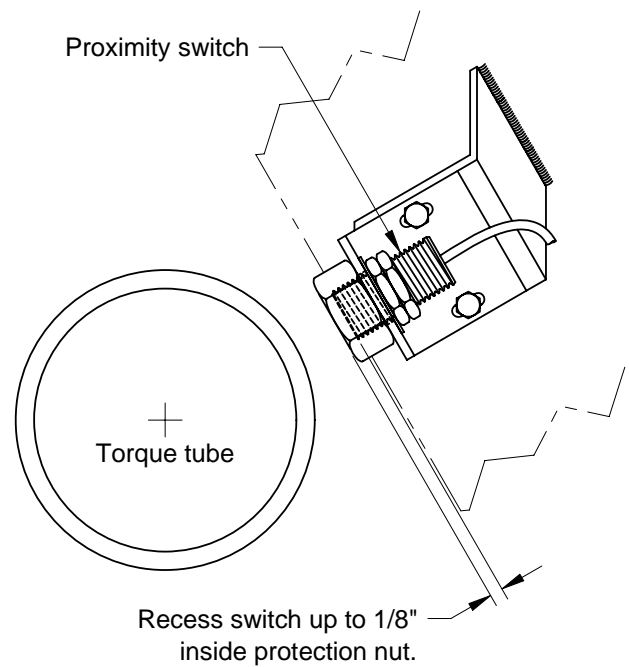

Figure 10-E
4. Weld bracket to the truck structure and set a 1" gap between the nut and torque tube, see Figure 10-D.